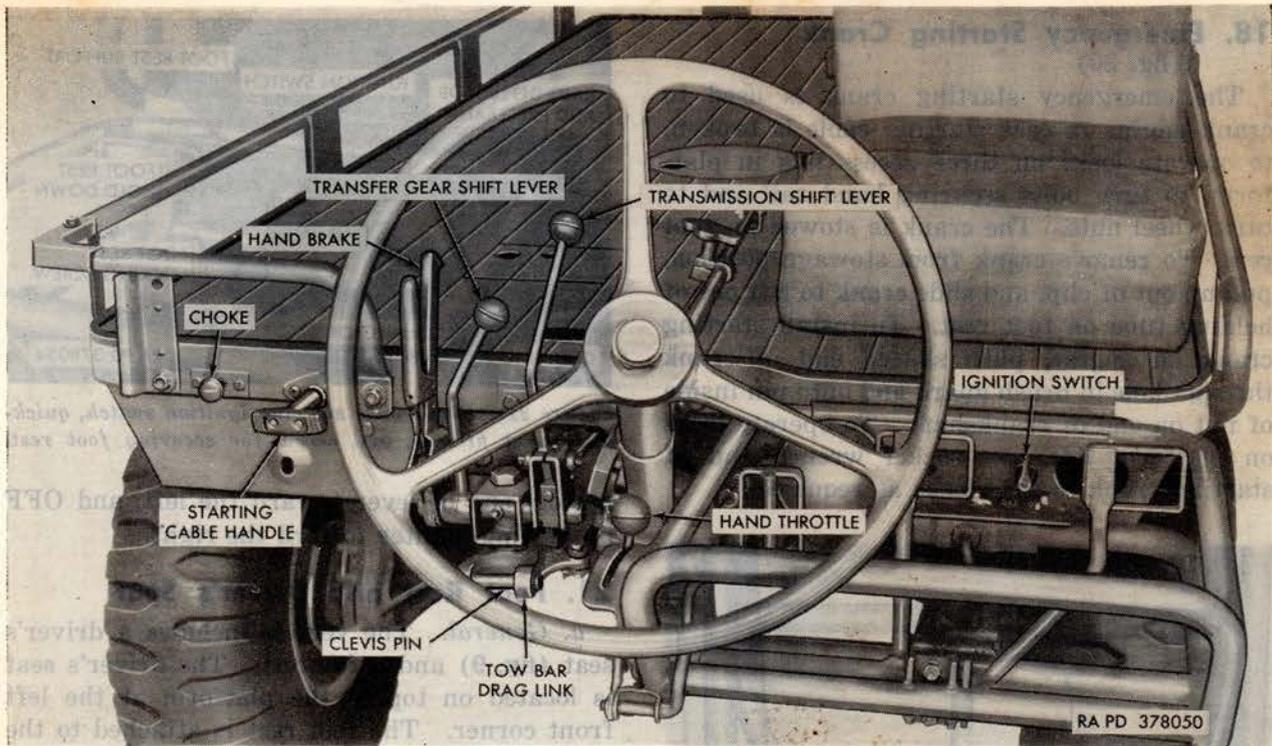
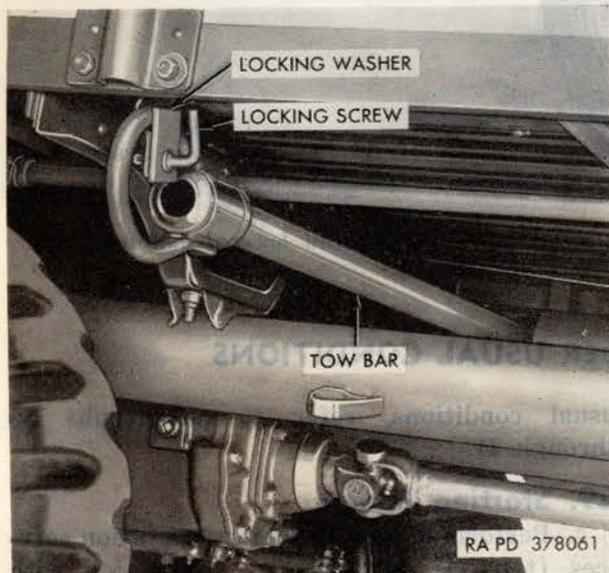

Figure 17. Controls as seen from standing position while driving vehicle backward.
Figure 28. Tow bar in stowed position.
The starting cable handle (fig. 17) is located at front edge of platform near right corner. The cable runs from the handle, through a tube to a sheave inside a housing attached to rear axle, thence to a sheave inside flywheel housing, the assembly serving to rotate engine crankshaft for starting purposes. To operate, grasp handle and pull cable quickly forward to the limit of its travel. This turns crankshaft several revolutions. Allow handle to slowly return to its original position, permitting cable to rewind on the spring-loaded sheave.
19. Choke Control (fig. 17)
a. The tow bar is used as a tongue when vehicle requires towing. When not in use, tow bar is stowed beneath and across platform forward of rear wheels (fig. 28). The rear end of bar is held in a tube fastened to platform, and front end is held by tow bar locking washer and screw.
b. To install tow bar in towing position on tow bar bellcrank, loosen locking screw (fig. 28), turn locking washer 180°, and pull tow bar from beneath platform. Tighten screw on washer. Remove locking pin from clevis pin (fig. 17) in tow bar bellcrank, and remove clevis pin. Position tow bar on tow bar bellcrank as shown in figure 9, push clevis pin through tow bar and bellcrank, and secure with locking pin.
c. To stow tow bar, remove locking pin from clevis pin (fig. 17) securing tow bar on tow bar bellcrank, and remove clevis pin and tow bar. Install clevis pin in bellcrank and secure with locking pin. Loosen tow bar locking screw (fig. 28) and turn locking washer so long end is down. Slide rear end of tow bar into tube under left side of platform, position loop of
e. Pull out the choke (fig. 17) to obtain proper fuel-air mixture (not necessary if engine is warm), grasp the starting cable handle, and rapidly pull out length of the cable. Allow starting cable to rewind slowly. Continue to crank engine by pulling out on handle until engine starts.